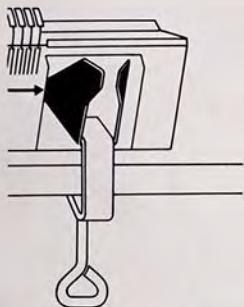

Fig. 1
1. Place bed close to table edge and fix with clamps, fig. 1. If you have a special PASSAP stand use the winged nuts packed in a small bag. The instructions for fixing the nuts is printed on top of this bag.